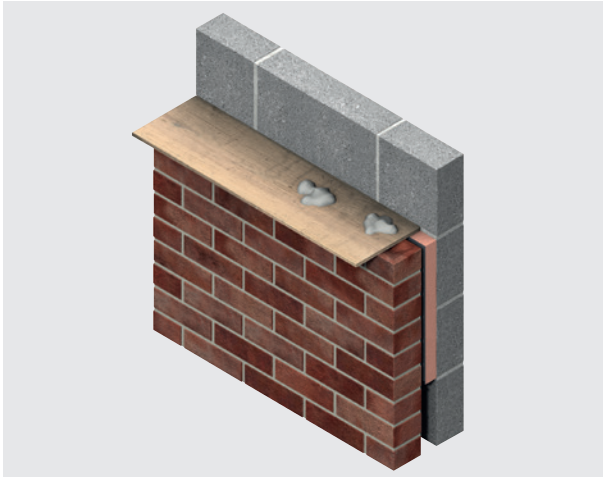

Figure 8 - Use of a Cavity Board to Protect the Cavity and Insulation Board Top Edge
- Use of a cavity batten or cavity board is recommended to protect board edges and maintain a clear cavity (see Figures 8 & 9) or refer to BBA Certificate 16/5299.